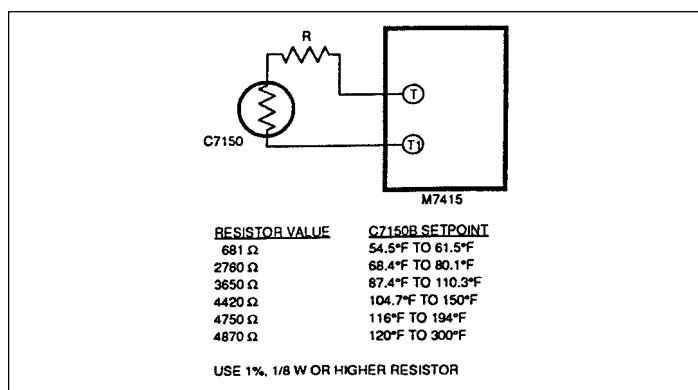

FIG. 9 – INCREASING THE C7150B SETPOINT.
2. If remote control of the dampers is desired, connect the remote potentiometer as shown in Fig. 9 and turn it fully clockwise before adjusting the minimum position.